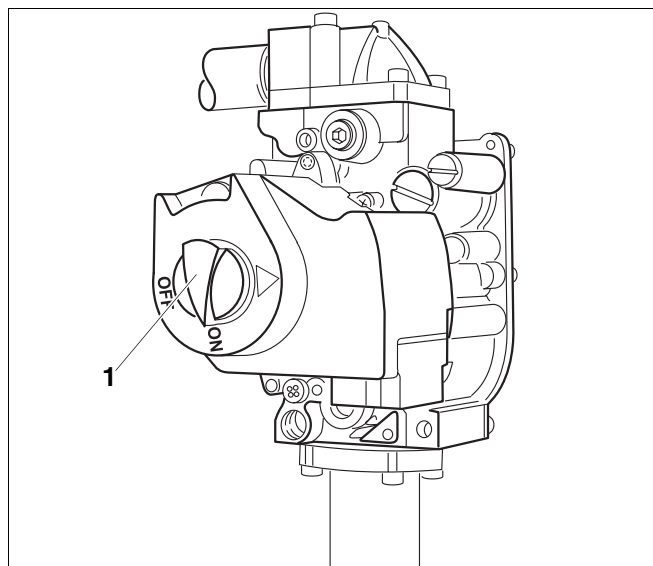

Fig. 12 G124X II gas valve
24. If the gas valve operates correctly, proceed to step 25. If the gas valve does not operate correctly, switch ON/OFF switch (→ Fig. 12) on the gas valve clockwise to the OFF position immediately. Close main gas valve. Disconnect heating system from the power supply and inform the customer service technician or LP gas company.